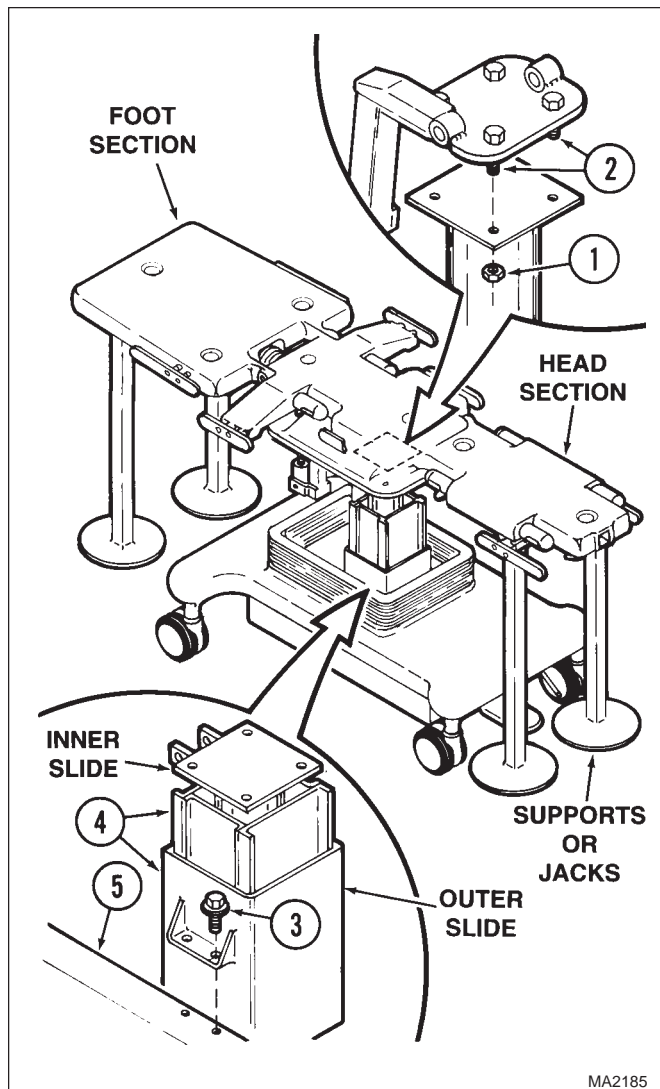

Figure 4-62. Column Assembly Removal / Installation
- (1) Remove the back cover (Refer to para 4-2).
- (2) Lower the bellows assembly (Refer to para 4-3).
- (3) Operate the surgery table to place the table top in a horizontal position. See Figure 4-62.
- (4) Operate the surgery table to raise the table top as high as it will go.
- (5) Depress the brake pedal to the brake position.
- (8) Remove four nuts (1, Figure 4-62) from screws (2). Do not remove screws.